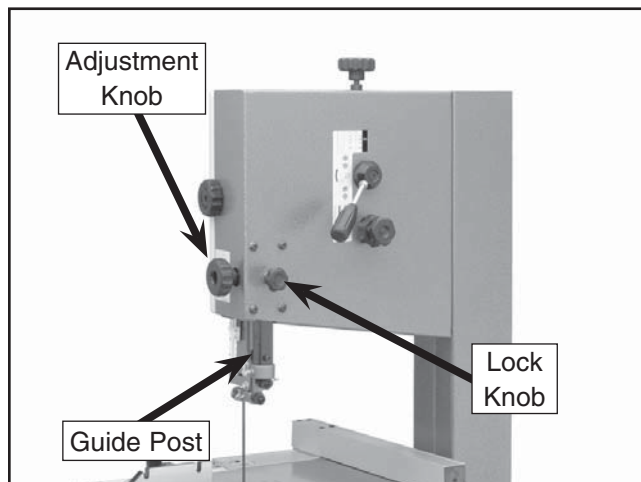

Figure 28. Guide post controls.
The guide post, shown in **Figure 28**, connects the upper blade guide assembly to the bandsaw. The guidepost allows the blade guide assembly to move up or down via rack and pinion adjustment. In order to cut accurately, the blade guide assembly must be no more than 1" from the top of the workpiece at all times—this positioning provides the greatest support to the blade.
2. Loosen the guide post lock knob shown in **Figure 28**.